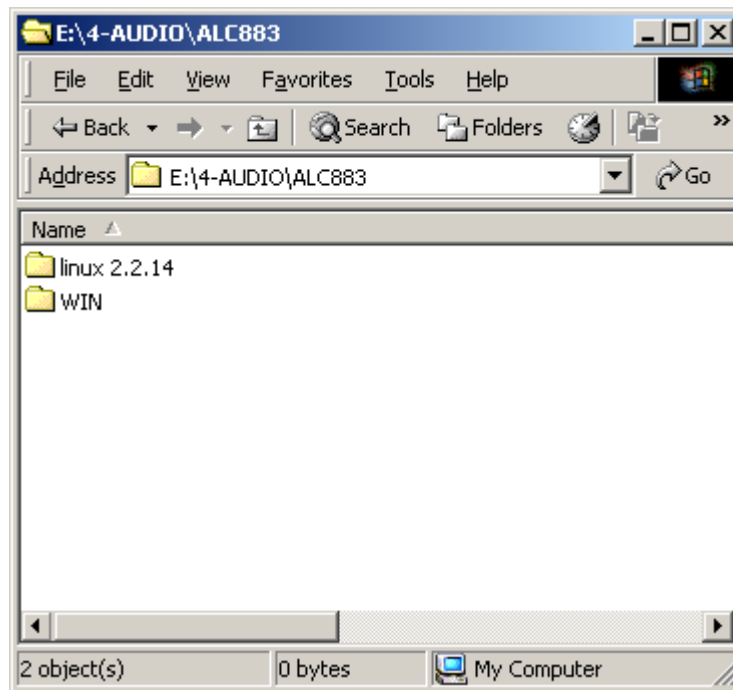

Figure 7-43: Select the OS
Step 4: Double-click the appropriate operating system folder (**Figure 7-43**).